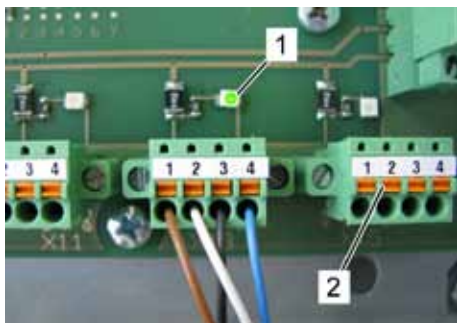

Fig. 106: Terminal box
2. ...please open the Terminal box and check all connected terminals for the respective LED (Fig. 106/1) being on.
3. If a LED is off remove the respective connector (Fig. 106/2).
Ä The LED (Fig. 106/1) must be on.